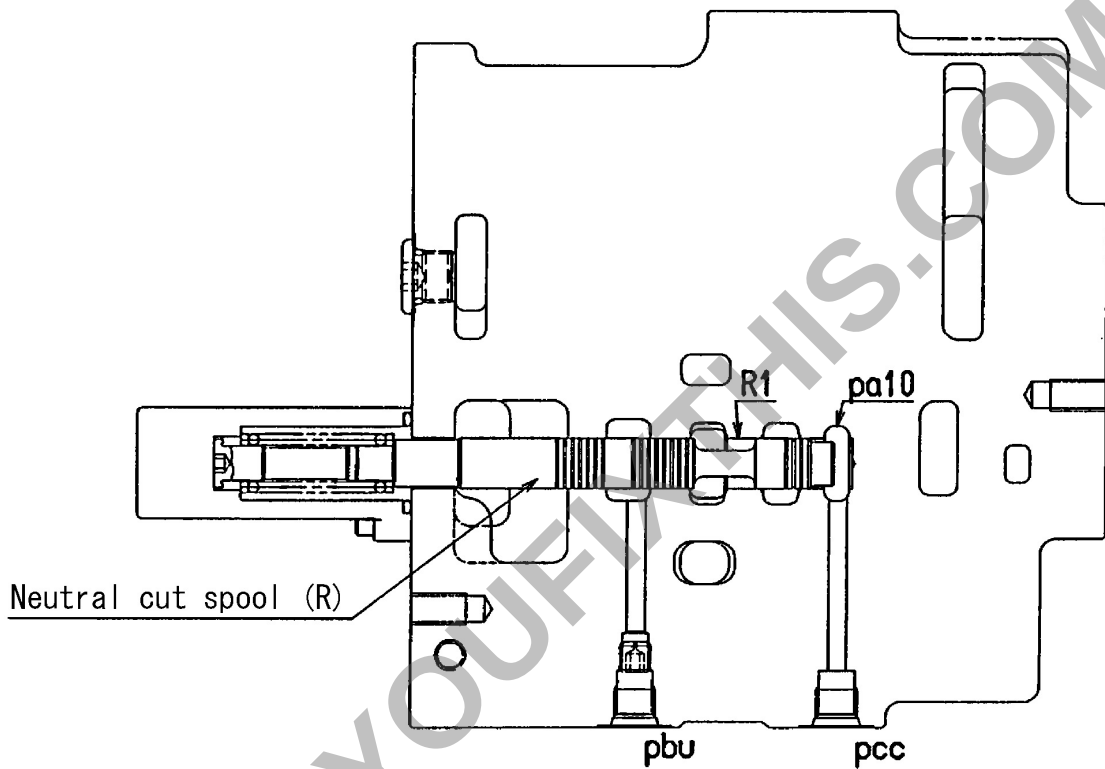

Fig.15
8) Neutral Cut Spool Changeover (extra combination) (Fig.15)